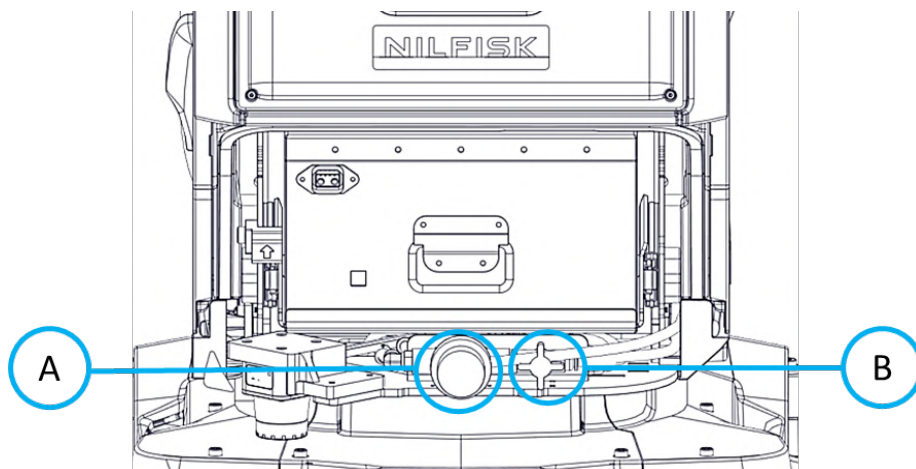

FIGURE 11-2
5. Unscrew the water filter cap (**Fig. 11-2 (A)**).